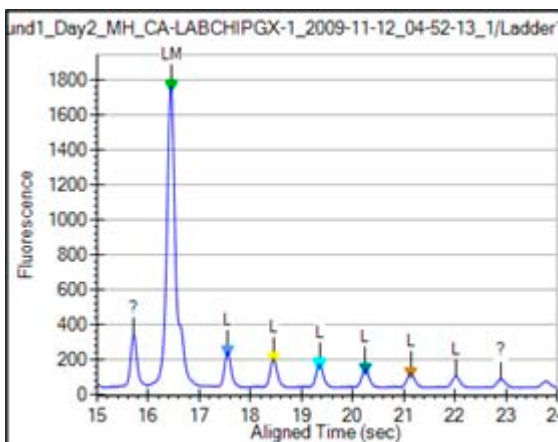

Figure 16. Ladder Graph - Glycan
- 4 A sizing ladder (see Figure 16), which consists of multiples of a basic sugar molecule, is run from the ladder vial before and after every 12 samples. The simplest molecule is assigned a size unit of 1 CGU (Caliper Glucose Unit). The sequence of ladder peaks is assigned integer size values, providing a migration time to size ruler for sizing other sugar molecules.